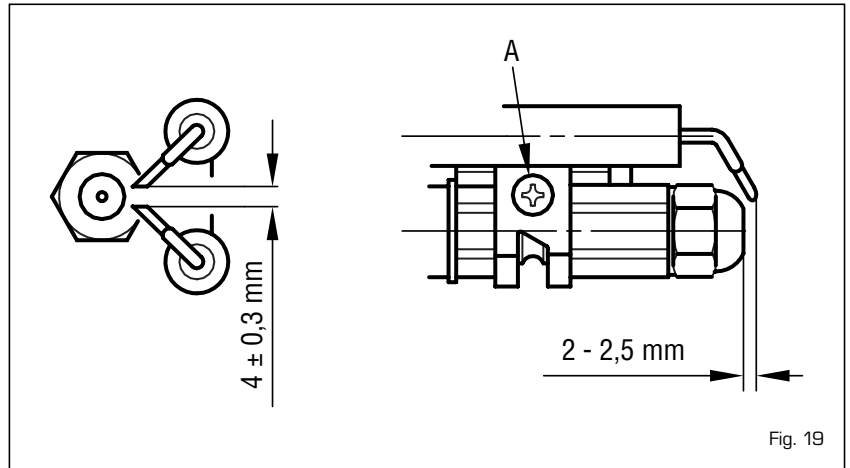

Fig. 19
##### 4.5.2 Cleaning combustion head (fig. 19)
- Loosen the fixture screw (A fig. 19) of the electrodes support and remove it.